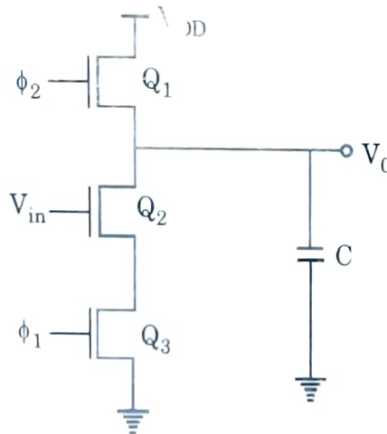

Fig. 3.14.2. Two-phase n-type MOS (nMOS) inverter.
4. An inverter based on two-phase clock generator is shown in Fig. 3.14.2.